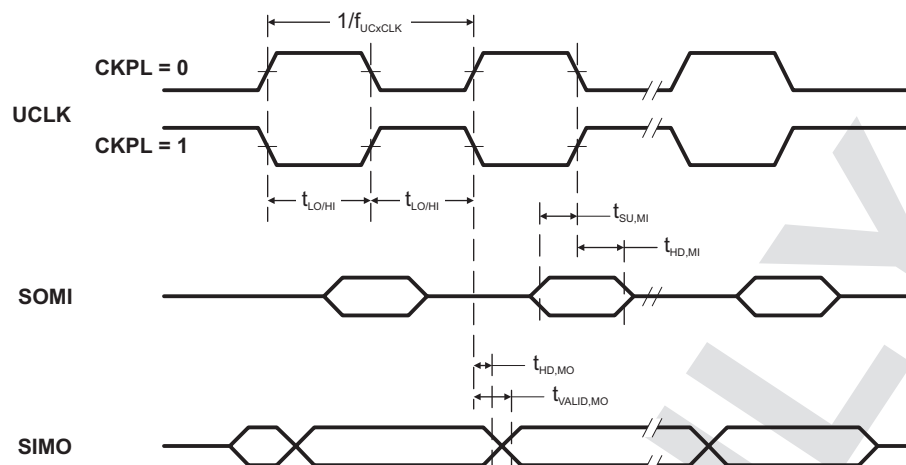
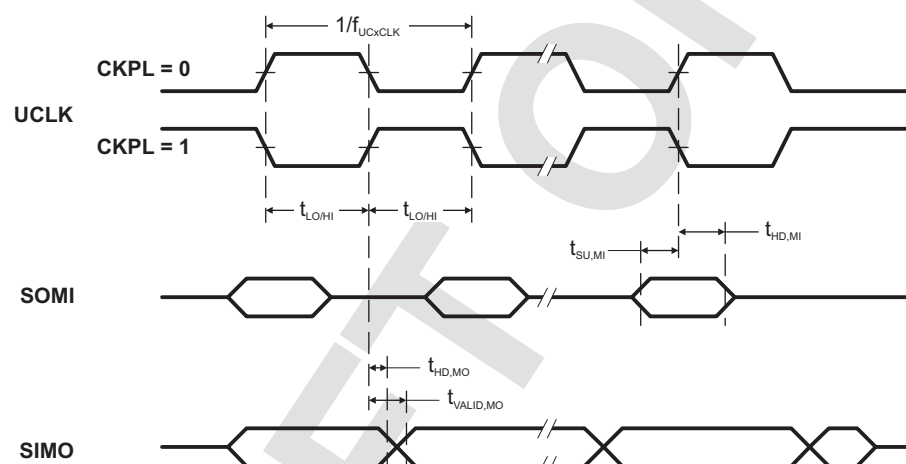

Figure 17. SPI Master Mode, CKPH = 0
Figure 18. SPI Master Mode, CKPH = 1
over recommended ranges of supply voltage and operating free-air temperature (unless otherwise noted)⁽¹⁾ Figure 17 Figure 18
- (2) Specifies the time to drive the next valid data to the SIMO output after the output changing UCLK clock edge. See the timing diagrams in Figure 17 and Figure 18.
- (3) Specifies how long data on the SIMO output is valid after the output changing UCLK clock edge. Negative values indicate that the data on the SIMO output can become invalid before the output changing clock edge observed on UCLK. See the timing diagrams in Figure 17 and Figure 18.
(2) Specifies the time to drive the next valid data to the SOMI output after the output changing UCLK clock edge. See the timing diagrams in Figure 17 and Figure 18.
(3) Specifies how long data on the SOMI output is valid after the output changing UCLK clock edge. See the timing diagrams in Figure 17 and Figure 18.